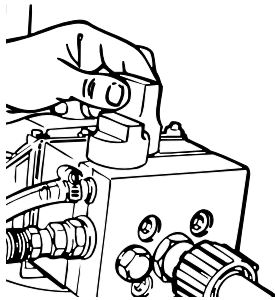

Figure 21 - Pressure Control Knob Setting
2. Return **PRESSURE CONTROL KNOB** to its lowest setting (**counterclockwise**). Figure 21.
4. Turn **PRESSURE CONTROL KNOB** completely **clockwise** to maximum pressure, Figure 21. Paint should then begin to flow into the paint hose, causing it to stiffen.